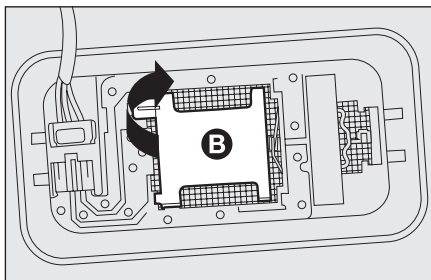

fig. 33
- open the cap **B-fig. 33** as indicated;